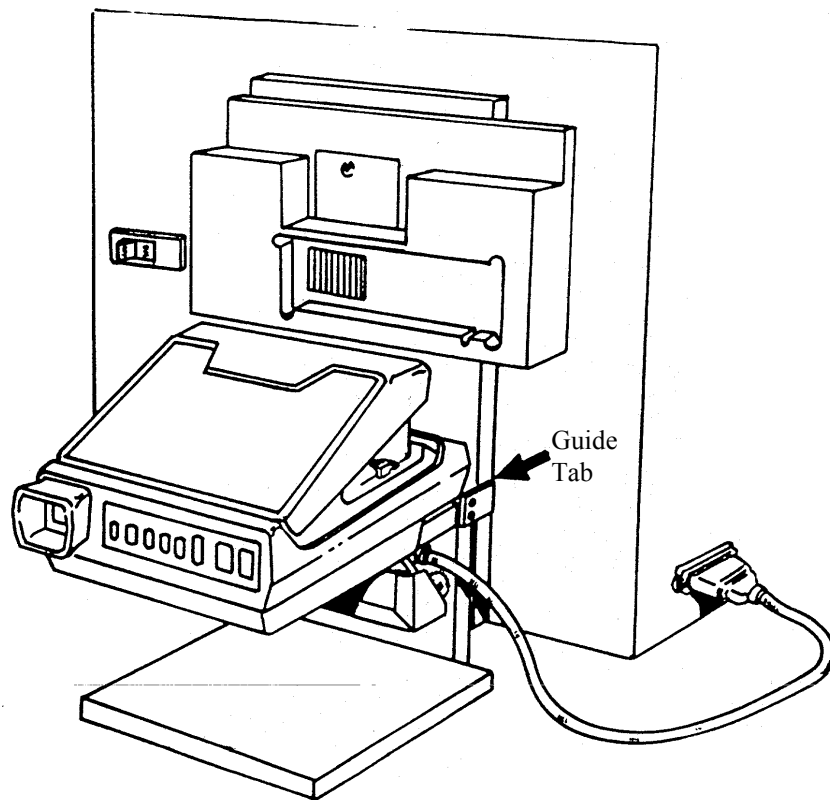

Figure 3-9 Positioning Camera on Horn Against Star Tester
8. Position the Horn with the camera mounted on it against the front of the Tester, with the guide tab on the right side of the Horn against right edge of window mounting plate (see Figure 3-9.)